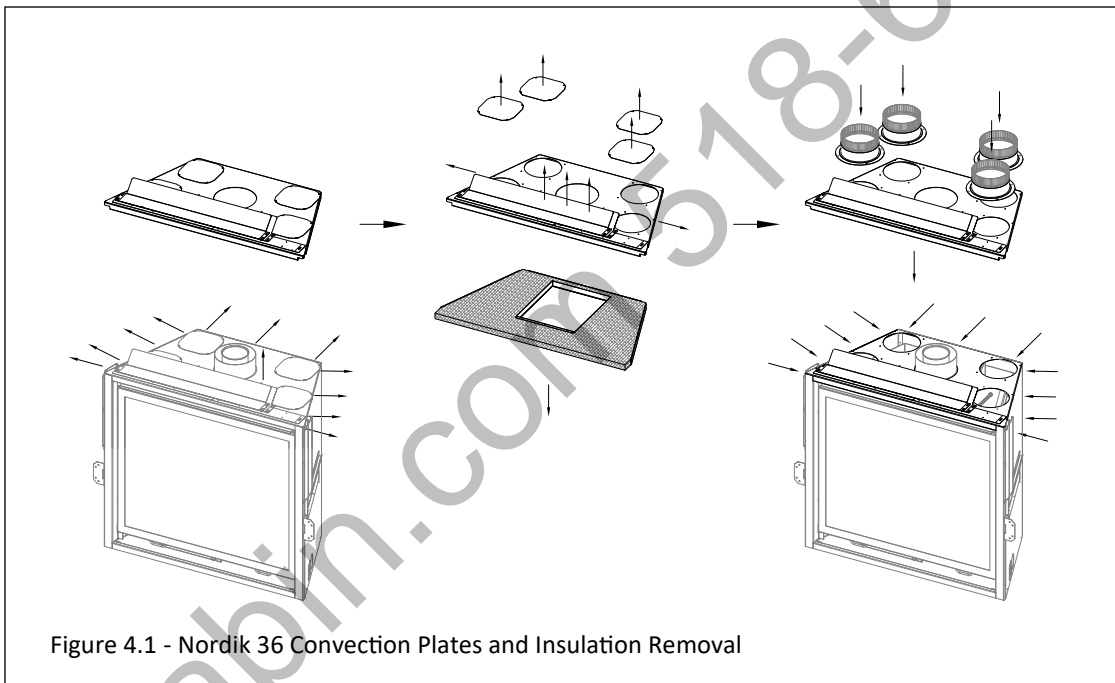
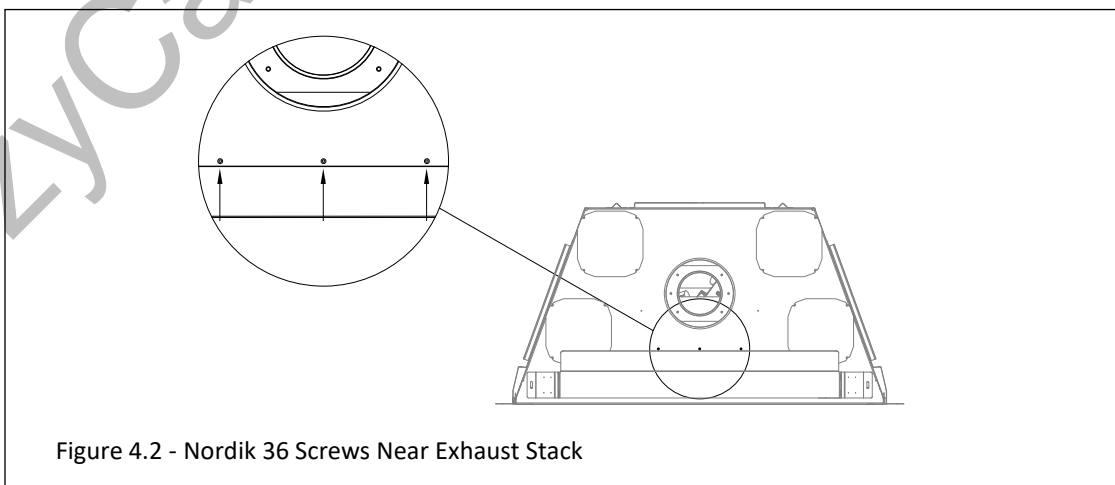

Figure 4.1 - Nordik 36 Convection Plates and Insulation Removal
Figure 4.2 - Nordik 36 Screws Near Exhaust Stack
1. Remove the (11) sheet metal screws that secure the top outer shell assembly. Pull this assembly straight up around the exhaust stack to remove it from the appliance. See the first image in Figure 4.1.
2. Remove the (4) cover plates where each cover plate is secured with (4) sheet metal screws. See the second image in Figure 4.1. Discard these cover plates.
3. Remove (3) sheet metal screws from the top of the assembly (see close up in Figure 4.2) and (2) sheet metal screws on the side of the assembly (one screw on each side shown in the second image of Figure 4.1). You are now able to separate the two sections of the top outer shell assembly. Remove and discard both the insulation and the bottom section of the top assembly.
4. Reinstall the top outer shell assembly on the appliance with the previously removed (11) sheet metal screws.